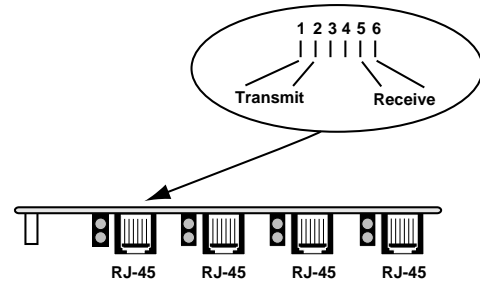
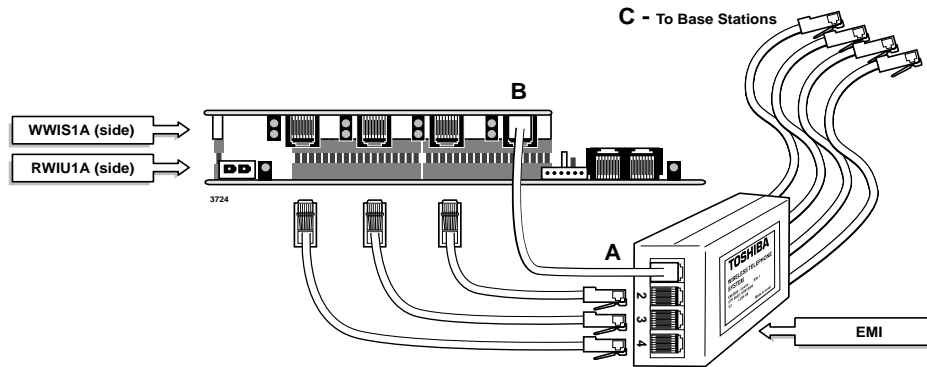

Figure 16-25 RJ-45 Pin Configuration
Figure 16-26 EMI Connections to the RWIU/WWIS
3. Connect one end of each cable into the RJ-45 jacks on the RWIU/WWIS (Point B in Figure 16-26) and the other end (reversed) into the EMI box (Point A in Figure 16-26). The RJ-45 transmit and receive pins are shown in Figure 16-25.
4. Connect each end of the other set of cables into the RJ-45 jacks of the EMI box (Point C - To Base Stations in Figure 16-26) and run the opposite end out to the Base Stations.